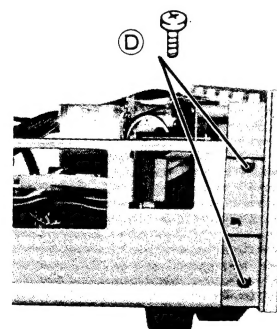

Figure 11
2. Remove two screws (D) (3φ x 6mm) from both sides of the unit. (See Figure 11)